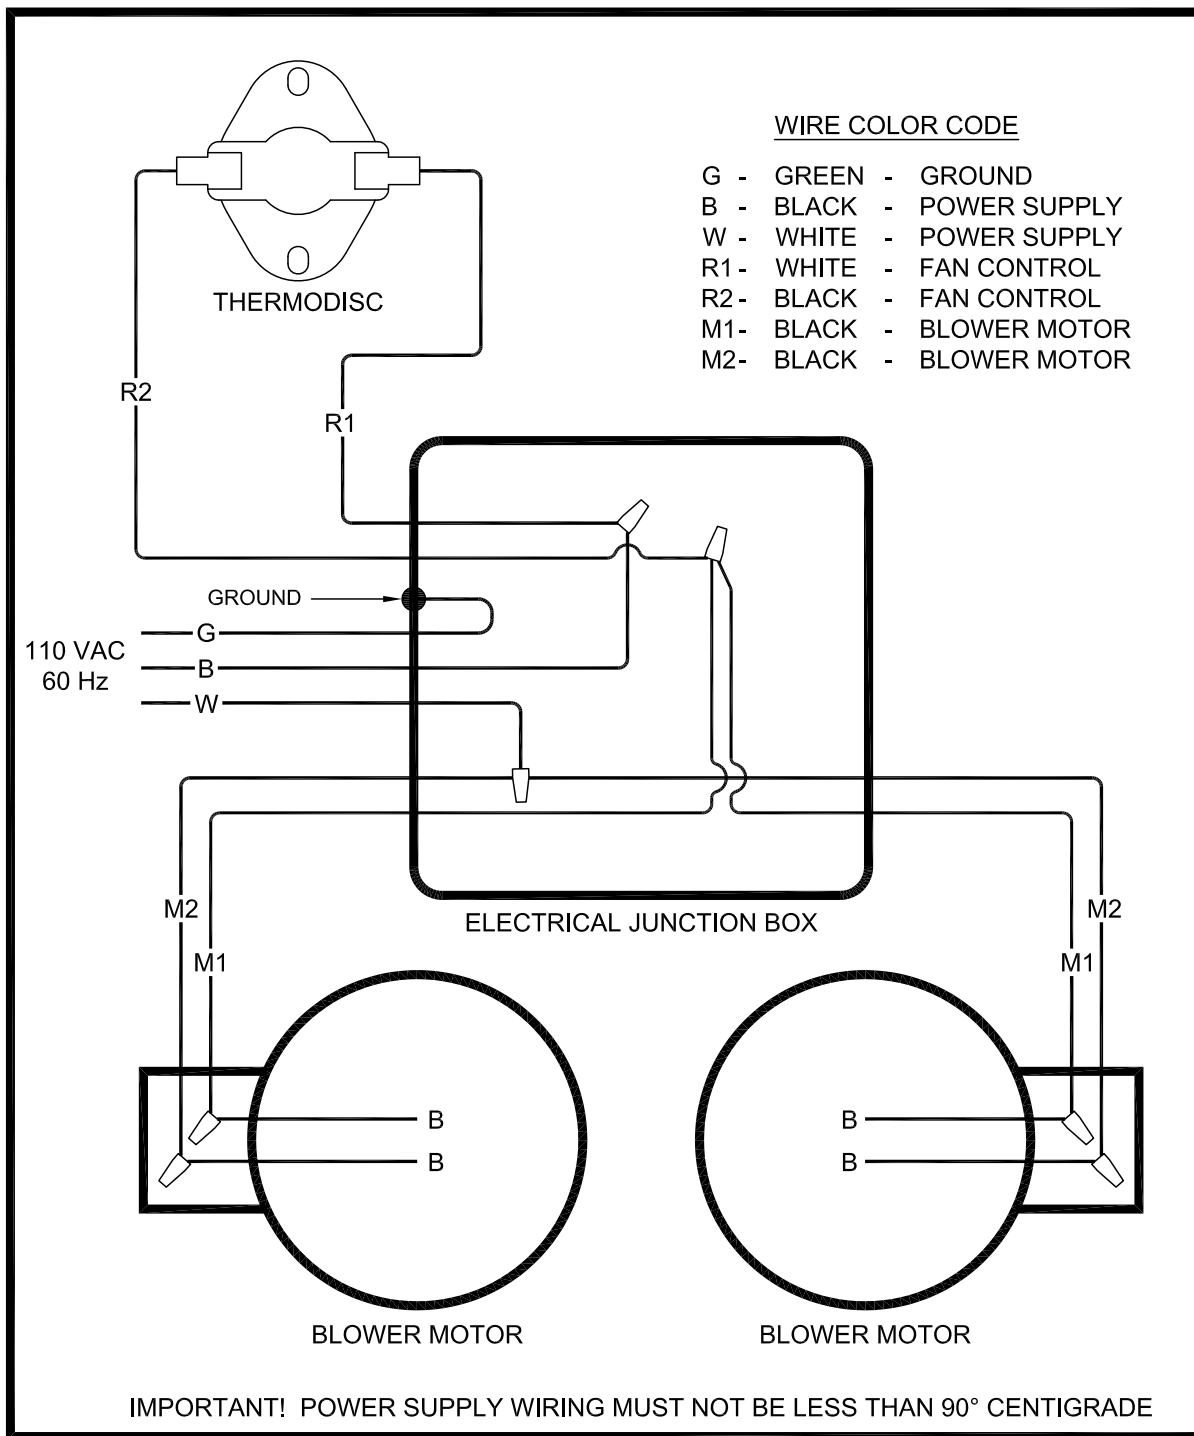

Figure 16
- f) Connect electrical supply in the electrical junction box that is mounted on the back of the Furnace. See Wiring Diagram (Fig. 16). Remove the cover from electrical junction box and connect power supply wires to wires designated, using wire nuts. The power cord supplied may be used for installation, if permitted by local codes and regulations. If the power cord supplied cannot be used, the power supply wiring must be 90 degrees centigrade in a metal cable and should be completed by a qualified installer complying with NFPA Standard No. 70 and local codes.